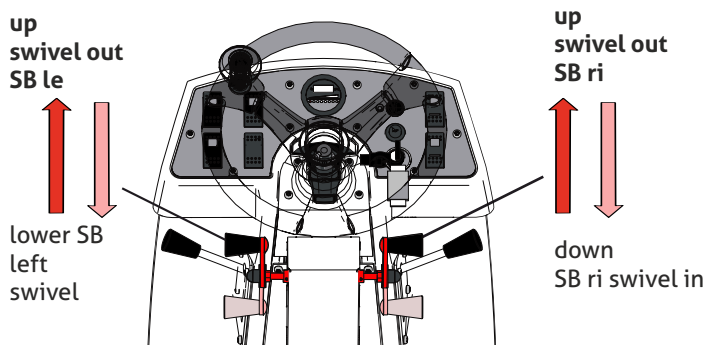

Fig. 34
- while in operation, push the lever for the swivelling side brushes on the right and/or left down (Fig. 34),